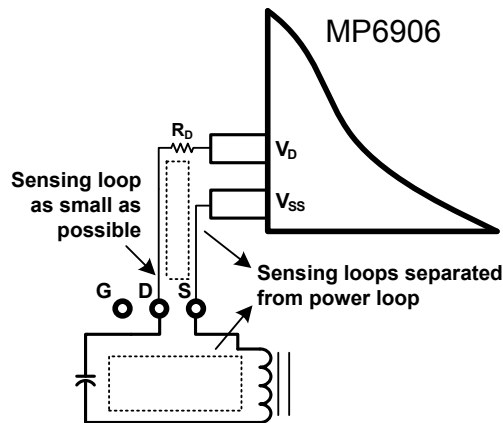
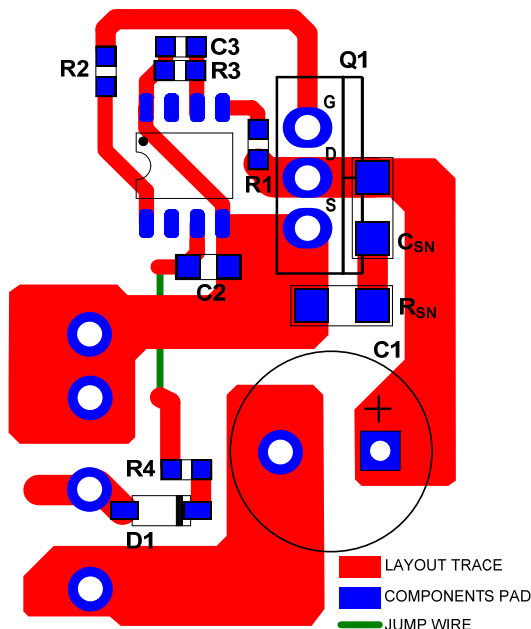
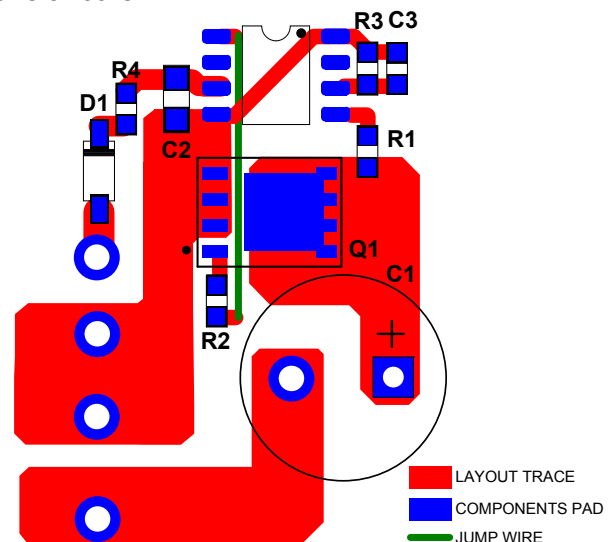

Figure 17: Voltage Sensing for V_D/V_{SS} on MP690
Figure 18: Layout Example with TO220 package SR FET
Figure 19: Layout Example with PowerPAK/SO8 Package SR FET
Efficient PCB layout is critical for optimal operation. For best results, refer to Figure 17, Figure 18, and Figure 19 and follow the guidelines below:
- 3.) Keep the IC out of the power loop to make sure the sensing loop and power loop do not interrupt each other (see Figure 17).
Figure 18 shows a layout example of a single layer with a through-hole transformer and a TO220 package SR FET. R_{SN} and C_{SN} are the RC snubber network for the SR FET.
Figure 19 shows another layout example of a single layer with a PowerPAK/SO8 package SR FET, which also has a minimized sensing loop and power loop to avoid the loops interfering with one another.